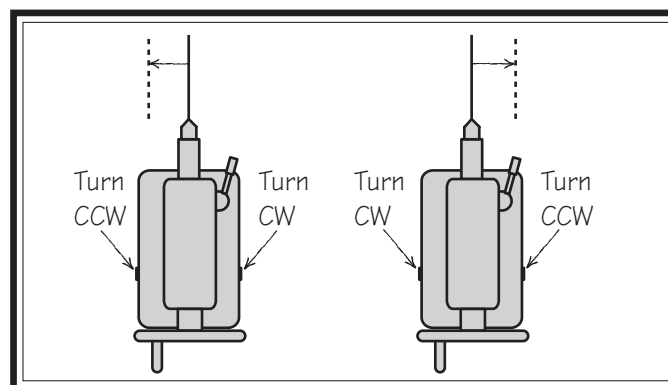

Figure 34. Set screw adjustment in relation to tailstock movement.
The tailstock can be offset from the spindle centerline for turning tapers. Move the tailstock top casting toward the front of the lathe to machine a taper at the tailstock end. Conversely, position the tailstock top casting toward the back of the lathe to machine a taper at the spindle end (see the illustration in **Figure 34**).
2. Rotate the offset adjustment cap screws in opposite directions for the desired offset (see the illustration in **Figure 34**).